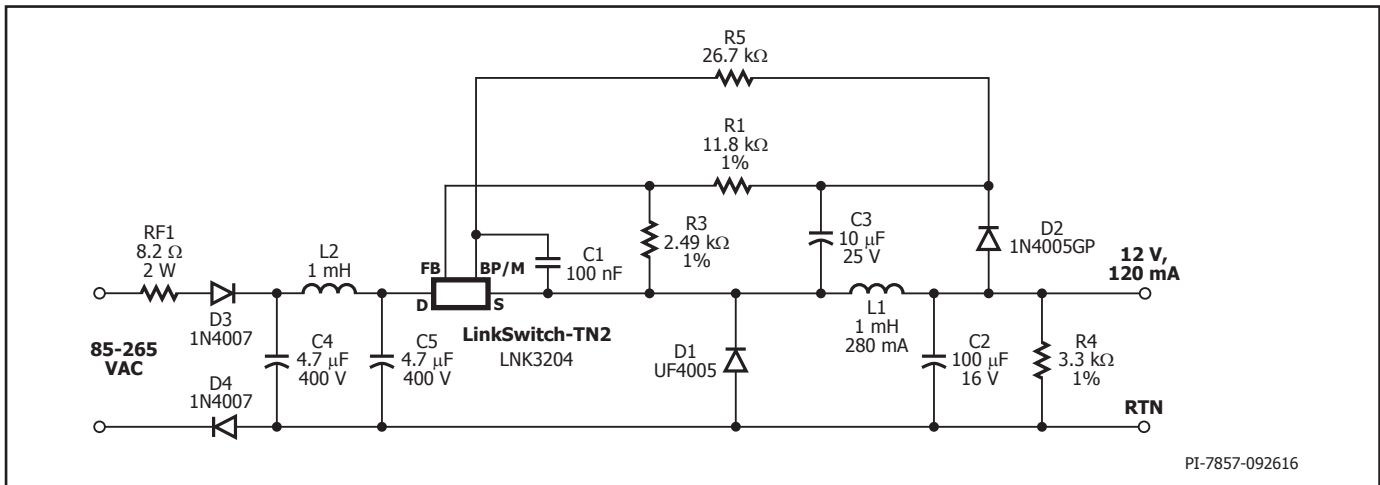

Figure 8. Universal Input, 12 V, 120 mA Constant Voltage Power Supply using LinkSwitch-TN2.
The circuit shown in Figure 8 is a typical implementation of a 12 V, 120 mA non-isolated power supply used in appliance control such as rice cookers, dishwashers or other white goods. This circuit may also be applicable to other applications such as night-lights, LED drivers, electricity meters, and residential heating controllers, where a non-isolated supply is acceptable.
Regulation is maintained by skipping switching cycles. As the output voltage rises, the current into the FEEDBACK pin will rise. If this exceeds  $I_{FB}$  then subsequent cycles will be skipped until the current reduces below  $I_{FB}$ . Thus, as the output load is reduced, more cycles will be skipped and if the load increases, fewer cycles are skipped. To provide overload protection if no cycles are skipped during a 50 ms period, LinkSwitch-TN2 will enter auto-restart, limiting the average output power to approximately 3% of the maximum overload power. Due to tracking errors between the output voltage and the voltage across C3 at light load or no-load, a small pre-load may be required (R4). For the design in Figure 8, if regulation to zero load is required, then this value should be reduced to 2.4 kΩ.
Referring to Figure 8, the following considerations may be helpful in selecting components for a LinkSwitch-TN2 design.
Figures 9a, 9b and 9c are printed circuit board layout design examples for the circuit schematic shown in Figure 8. The loop formed between the LinkSwitch-TN2, inductor (L1), freewheeling diode (D1), and output capacitor (C2) should be kept as small as possible. The BYPASS pin capacitor C1 should be located physically close to the SOURCE (S) and BYPASS (BP) pins. To minimize direct coupling from switching nodes, the LinkSwitch-TN2 should be placed away from AC input lines. It may be advantageous to place capacitors C4 and C5 in-between LinkSwitch-TN2 and the AC input. The second rectifier diode D4 is optional, but may be included for better EMI performance and higher line surge withstand capability.